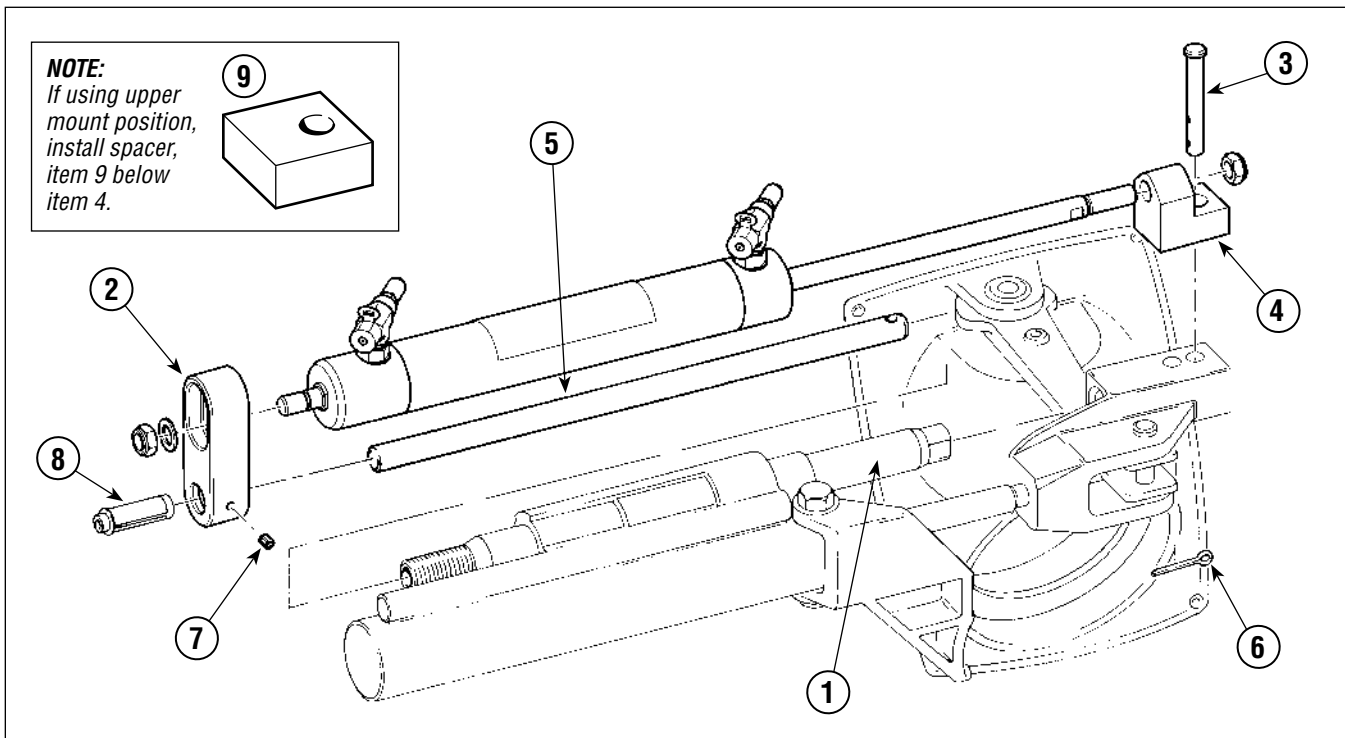

Figure 15. HC5331-3 (92-VPS), **NOT for use with SeaStar PRO helm(s).**
Referring to Figure 15 please observe the following:
**Cut Clevis Pin, (item 3 Figure 15) to a length of 2" when mounting cylinder in lower position.**